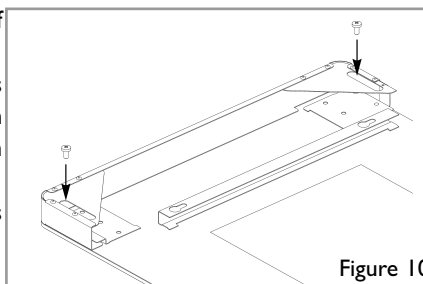

Figure 10
3. Ensure the sides are neatly aligned with the glass and secure the sides using two M6 screws for each side as shown in figure 10. **Do not overtighten the screws.**